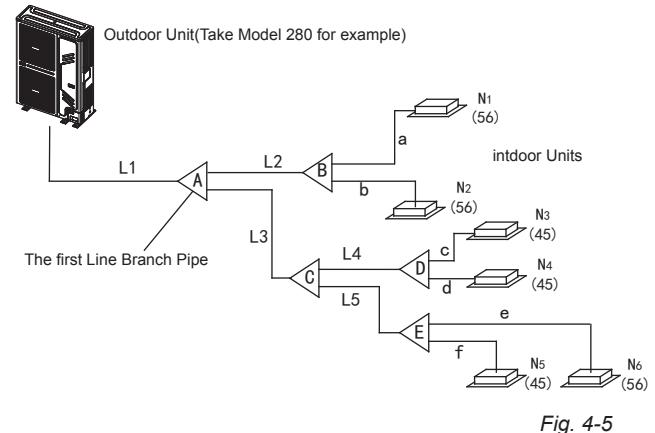

Fig. 4-5
- 2) Example 1: In the Fig.4-5, The downstream inner units of the L4, and its total capacity is $45\times2=90$, refers to the Table 4.4, the air/liquid side of L4 is: $\Phi15.9/\Phi9.5$.